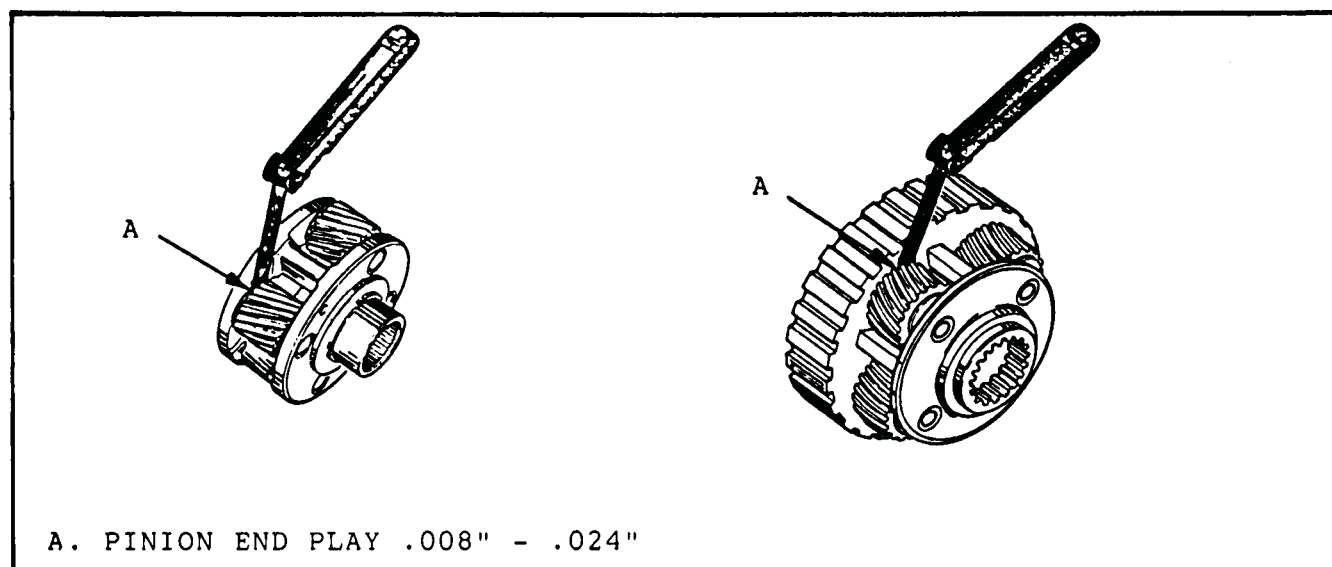

Figure 67
1. Inspect the reaction carrier and the input carrier for proper pinion end play as shown in Figure 67.